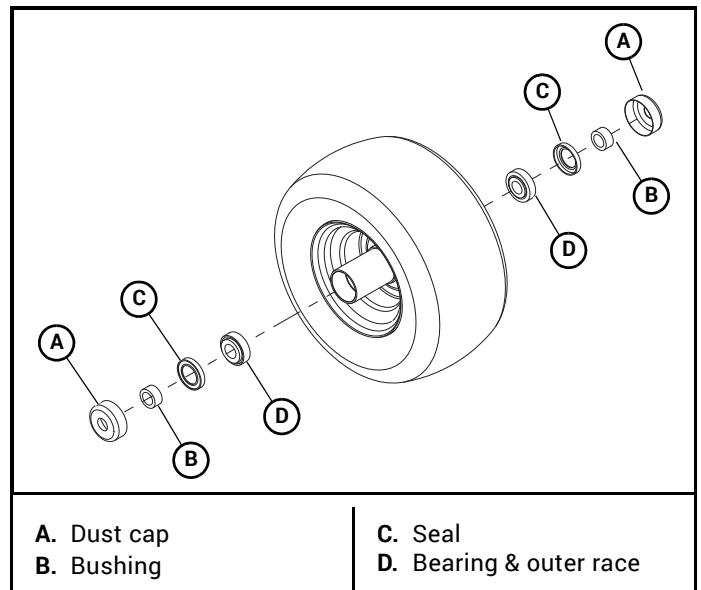

Figure 4-36
5. Insert the bushings through the seal openings and push them in until they contact the tapered roller bearings. Figure 4-36
6. Push the dust caps onto the wheel housing. Figure 4-36